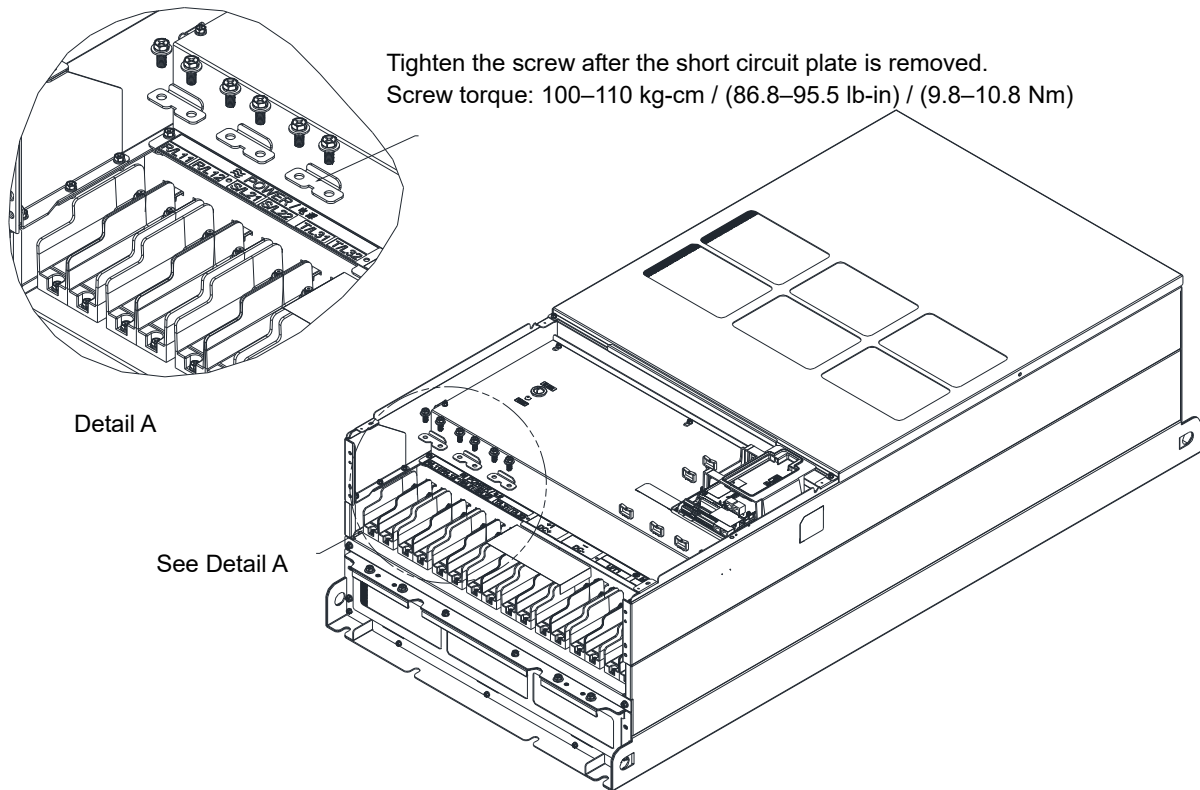
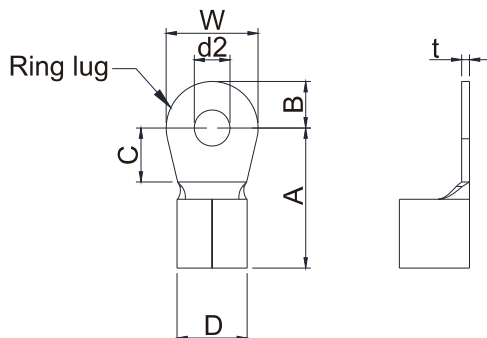

Figure 5-9
Figure 5-10
- Use the specified ring lug for main circuit terminal wiring. See Figure 5-9 and Figure 5-10 for ring lug specifications. For other types of wiring, use the wires that comply with the local regulations.